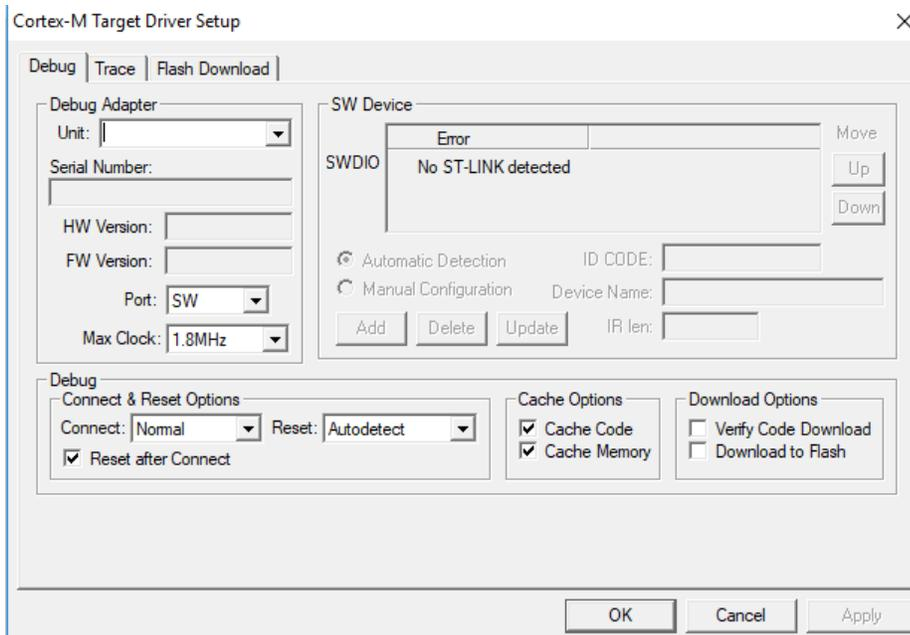

Figure 2.7
B) Select the *Debug tab* and click on *Settings* (top right) to get the screen shown in Figure 2.7
After creating *Debug.ini* and saving it, right click on Target1 in the *project* window and select *Options for Target 1*. In the screen that appears select the *Debug* tab as shown in Figure 2.7.